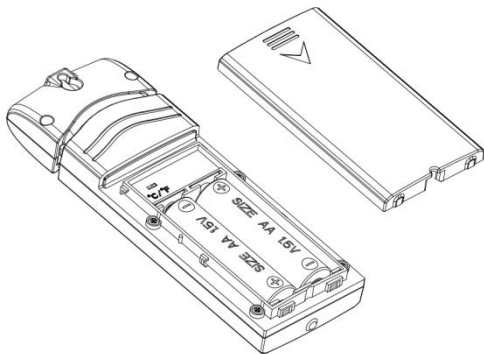

Figure 4: WN32 Sensor battery installation
Temperature Units: To change the transmitter display units of temperature measure ($^{\circ}\text{F}$ vs. $^{\circ}\text{C}$), change Dip Switch $^{\circ}\text{C}/^{\circ}\text{F}$, as referenced in Figure 4.
- Use a screw or nail to affix the remote sensor to the wall, as shown on the left side of Figure 4, or
string, as shown in right side of Figure 4.